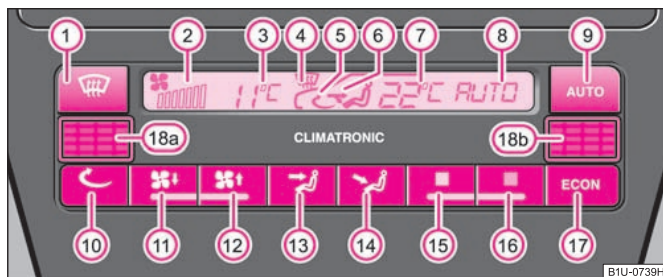

Fig. 102 Climatronic: Control elements
- Press the button **AUTO** ⇒ page 90, fig. 102.
Press and hold the buttons **17** **ECON** and **9** **AUTO** ⇒ page 90, fig. 102. The information in the desired temperature measuring unit appears in the display.
- Press the button  ⇒ page 90, fig. 102.
If the windscreen mists up, press the button  ① ⇒ page 90, fig. 102. After the windscreen has been demisted, press the button . ■
- Press the button ⑪ or ⑫ ⇒ page 90, fig. 102 in order to decrease or increase the speed.